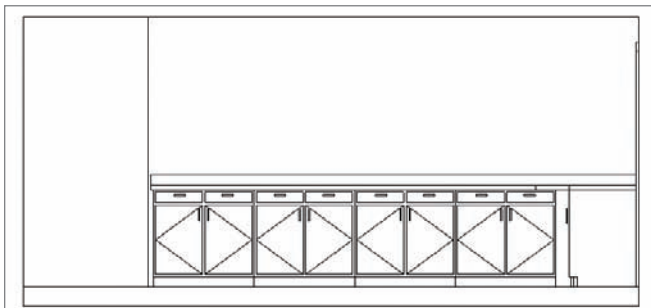

FIGURE 9.62 The base filler
9. Copy the base cabinet to the right three times (see Figure 9.62).
17. Insert the base filler into the model, as shown in Figure 9.62.